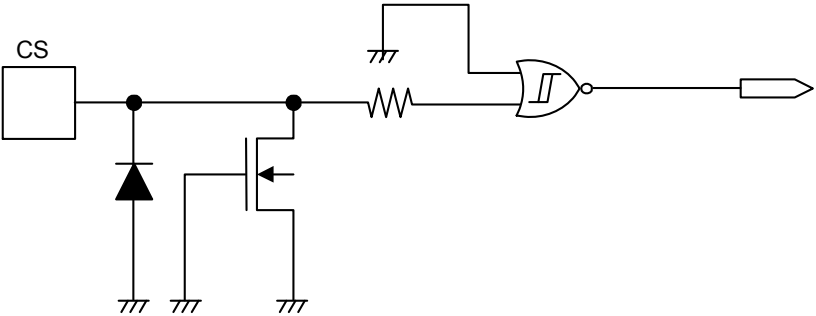
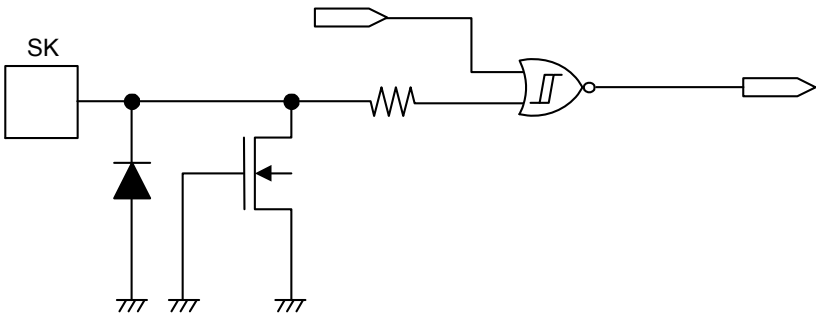
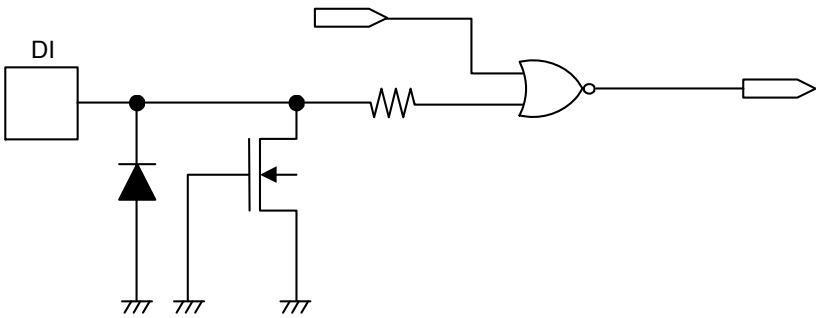
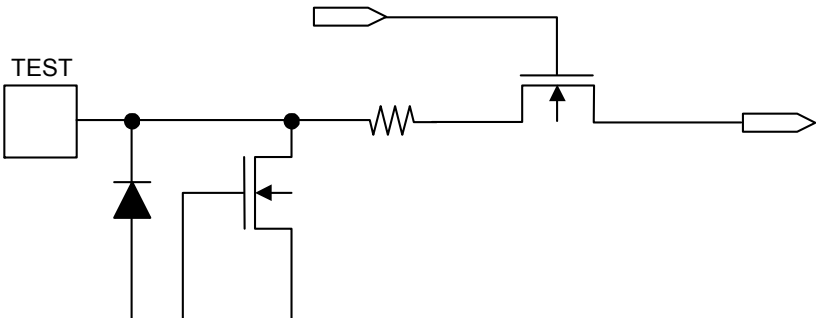

Figure 18 CS Pin
Figure 19 SK Pin
Figure 20 DI Pin
Figure 21 TEST Pin
**Figure 18**, **Figure 19**, **Figure 20** and **Figure 21** show the equivalent circuits of input pins in this IC. None of the input pins incorporate pull-up and pull-down resistors, so special care must be taken when designing to prevent a floating status.